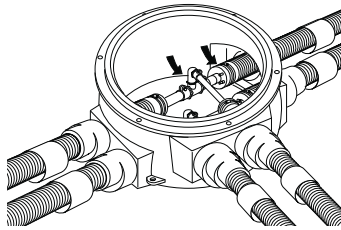

Figure 4-39: Final Connections
4. Insert all pipes into the Connection Vault and make all service pipe connections, as shown in Figure 4-39; then perform a pressure test.